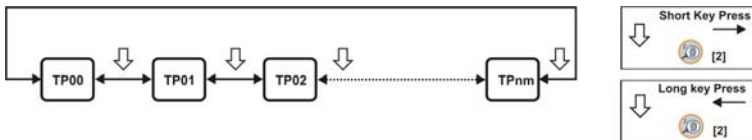

Figure 12.- Rotation of active test points.
- 2.- The key [2] enables you to change the selected test point in a sequential way (Figure 12.-). Therefore, the test point changes every time that you press this key. To select a specific test point, press repeatedly this key until the display shows the name assigned to the desired point. Each time you press shortly this key it advances to the next Test Point. If you press longer (1s) this key it goes back to the previous Test Point. If you want to go to the first Test Point (TP1) you should press the key [1] for 1s.